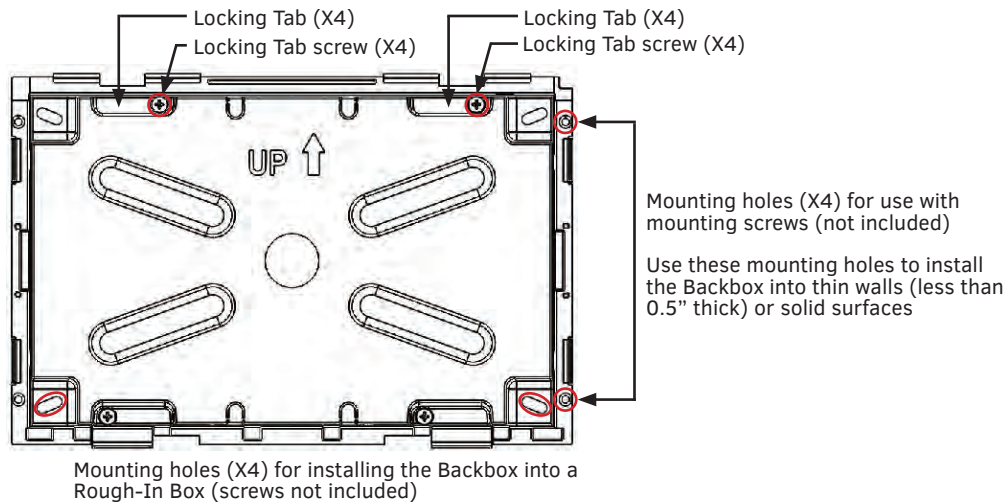

FIG. 20 10.1" MODERO Backbox (Front View)
- FIG. 20 shows the Backbox for the MD-1002:
- To ensure a stable installation, the thickness of the wall material must be a minimum of .50 inches (1.27cm) and a maximum of .875 inches (2.22cm). The mounting surface should also be smooth and flat. For thin walls or solid surfaces, use mounting screws (not included) - see FIG. 20.